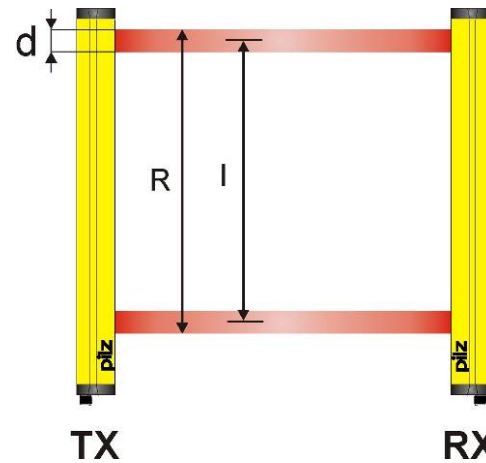

Fig. 2
Fig. 2 shows the optical axis (I) and the resolution (R) of the safety light curtain designed for body protection.